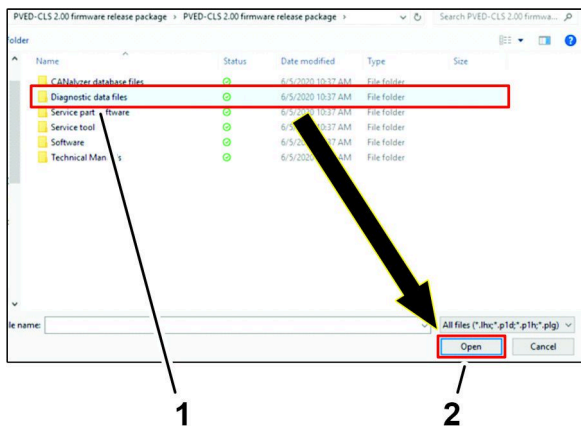

Figure 50
4. Click the Diagnostic data files folder, and click the OPEN icon (Figure 50).